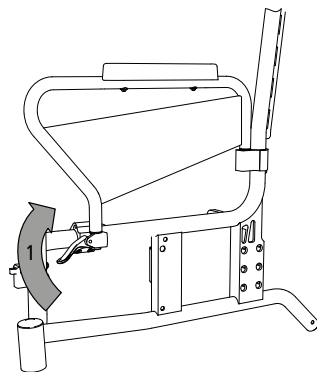

Fig. 10
1. Firstly loosen the locking lever of the front clamp. (1, Fig. 10).